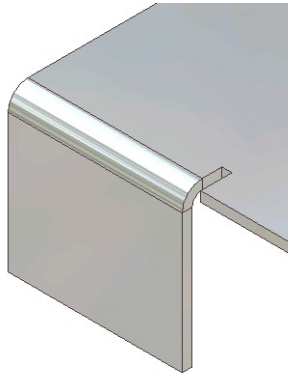
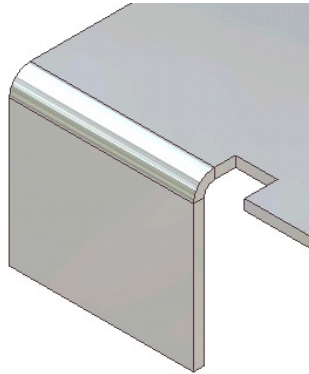

Figure 15-10 *Sheet metal with relief width of 1 mm*
Figure 15-11 Sheet metal with relief width of 4 mm
Relief Width (A): This edit box is used to enter the value of the width of the relief. The default value of the relief width is equal to the thickness of the sheet. You can enter the value of the relief width in this edit box. Figure 15-10 shows a sheet metal component with a relief width of 1 mm and Figure 15-11 shows a sheet metal component with a relief width of 4 mm.